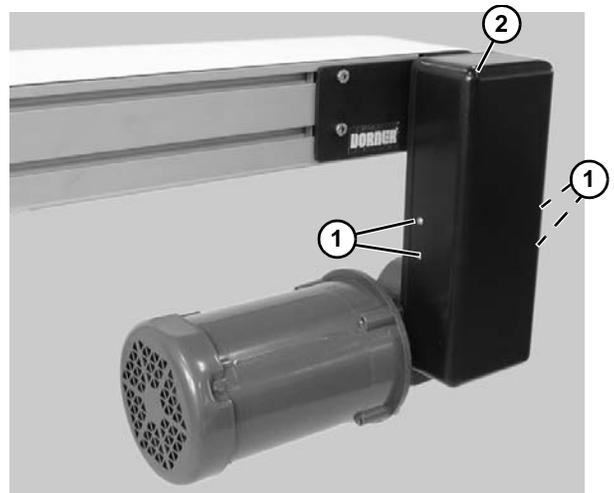

Figure 60
- Remove four (4) screws (Figure 60, item 1) and remove cover (Figure 60, item 2).